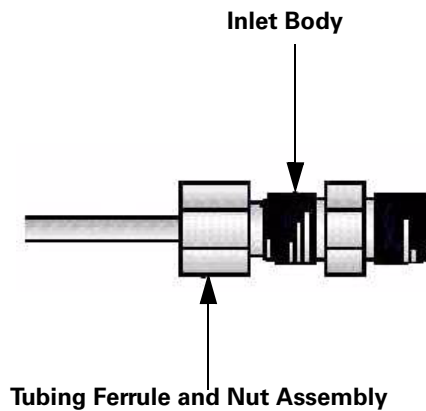

Figure B-2 Swagelok and Inlet Connection
- 5 Insert the tubing into the Swagelok inlet as far as it will go as shown in *Figure B-2 Swagelok and Inlet Connection*.